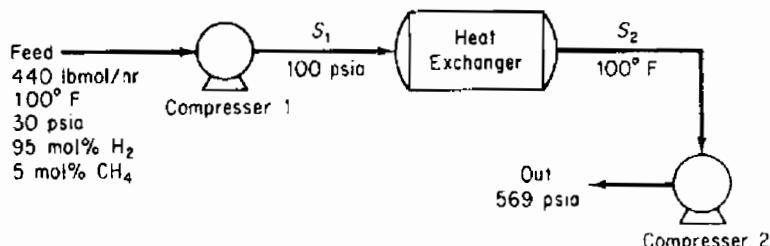

Figure P31.12
- 31.12** A gas consisting of 95 mol % hydrogen and 5 mol % methane at 100°F and 30 psia is to be compressed to 569 psia at a rate of 440 lb mol/hr. A two-stage compressor system has been proposed with intermediate cooling of the gas to 100°F via a heat exchanger. See Figure P31.12. The pressure drop in the heat exchanger from the inlet